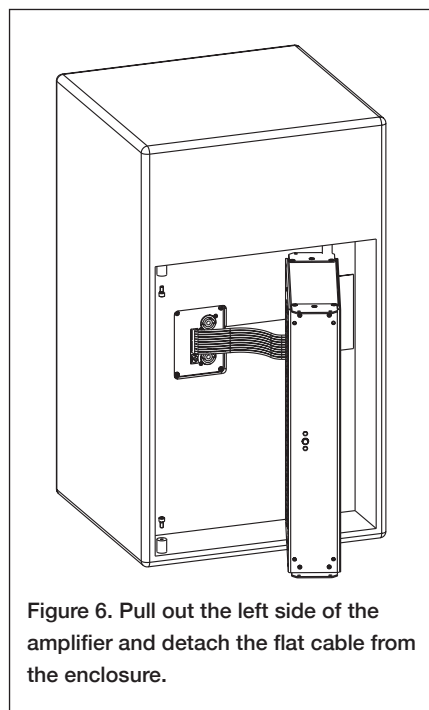

Figure 6. Pull out the left side of the amplifier and detach the flat cable from the enclosure.
3. Pull out the left side of the amplifier (see figure 6).